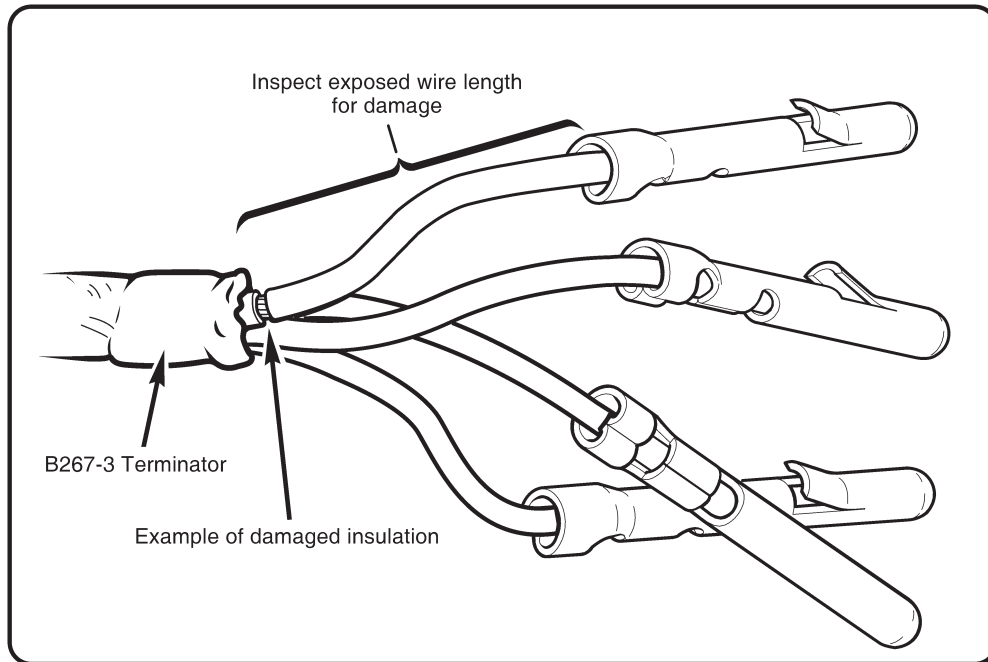

FIGURE 3 Inspect C143 sensor connector wires
- a. Refer to Figure 3. Determine if wire insulation between pins and shielding terminator is damaged; record any damage.